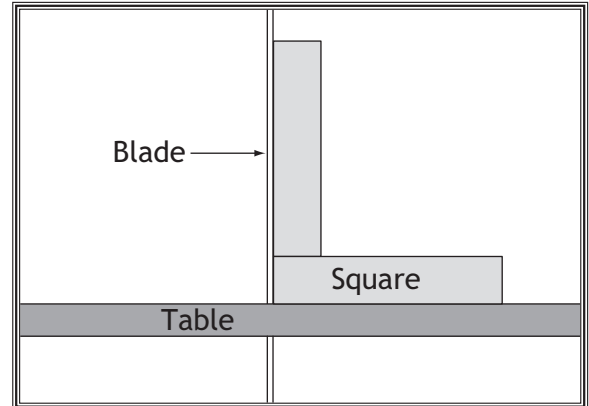

Figure 92. Example of checking guide post squareness.
3. Place machinist's square on table next to right-hand side of guide post, as shown in **Figure 92**.